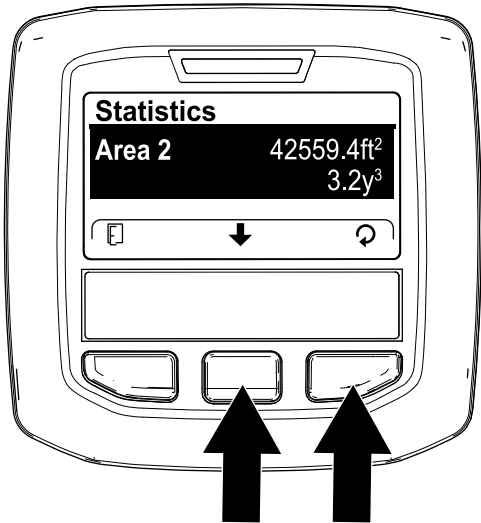

Figure 109
- In the STATISTICS screen, press the center InfoCenter button until the AREA 2 option is selected (Figure 109).